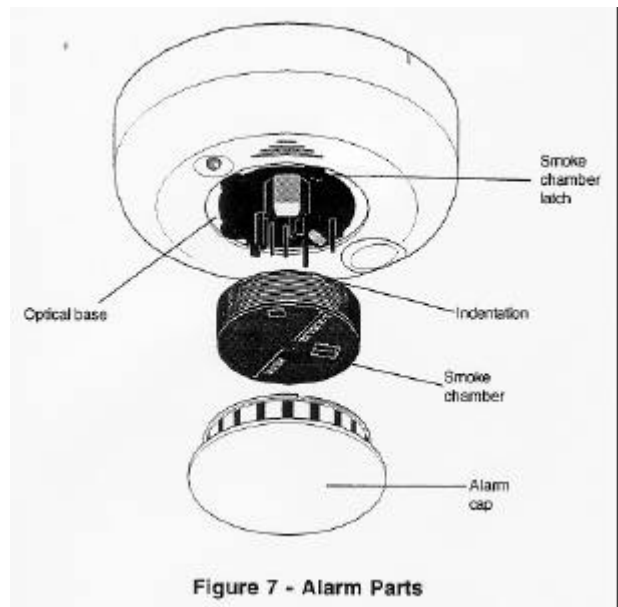

Figure 7 - Alarm Parts
4. Press in on the sides of the chamber and pull it up and away from the alarm and discard. See Figure 7.